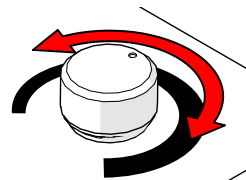

Fig. 5 - Flow control knob
3. Turn the flow control knob (clockwise) until the desired flow is achieved (Fig. 5).